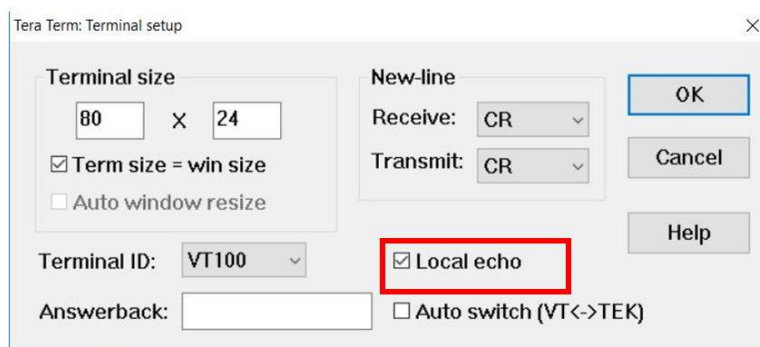

Figure 22: Enable local echo in TeraTerm
3. In TeraTerm it is necessary to enable local echo so that the commands typed on the Host PC appear in the terminal. Configure TeraTerm using **Setup > Terminal** and then tick local echo as shown in Figure 22.